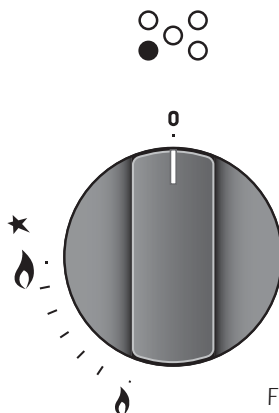

Fig. 4.1
Each hob burner is controlled by a separate gas tap operated by a control knob (fig. 4.1) which has 3 positions marked on the control panel, these are:
- 1) Lightly press and turn the knob anti-clockwise, and position the knob indicator to the symbol  printed on the control panel (fig. 4.1).